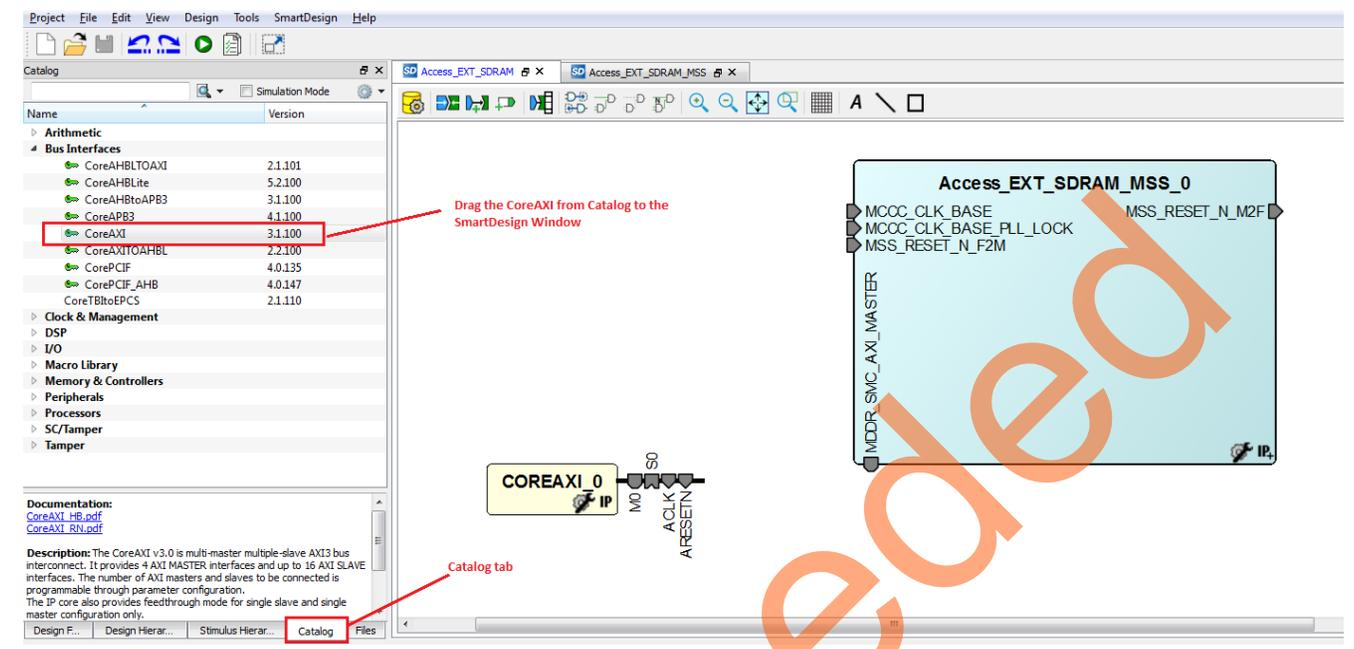

Figure 16. CoreAXI IP from the Catalog
1. In the **Catalog** tab, under **Bus Interfaces**, drag the **CoreAXI** IP onto the **Access_EXT_SDRAM** tab, as shown in **Figure 16**.